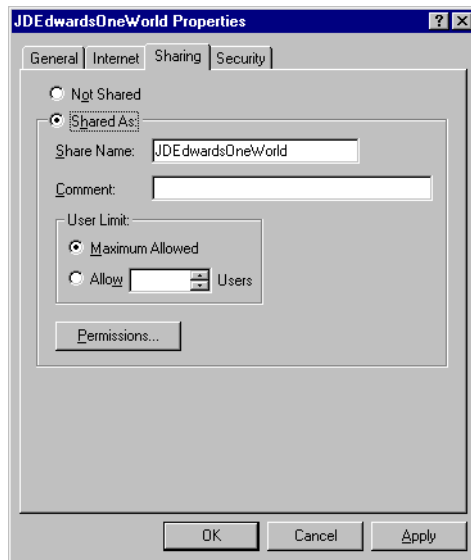

Figure 95. Deployment server directory sharing
4. Click **Shared As**. Type **B733** for Share Name. Click **Maximum Allowed** for User Limit. Your display should look similar to the example in Figure 95.